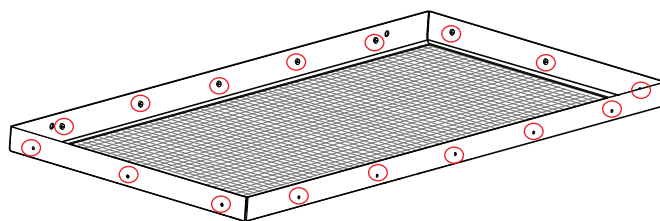

FIG 2:
- D. Remove glass from door frame. **(FIG. 2)**
- B. Remove the 10 top and bottom screws and the 6 side screws. **(FIG. 2)**
- B.** Remove screws from lower brackets and remove front lower panel (4, 5). Then remove screws from upper brackets (6, 7) and remove front upper panel (**FIG.2**).
E. Slide front upper panel into smoke chamber then front lower panel and install brackets. (**FIG.2**)